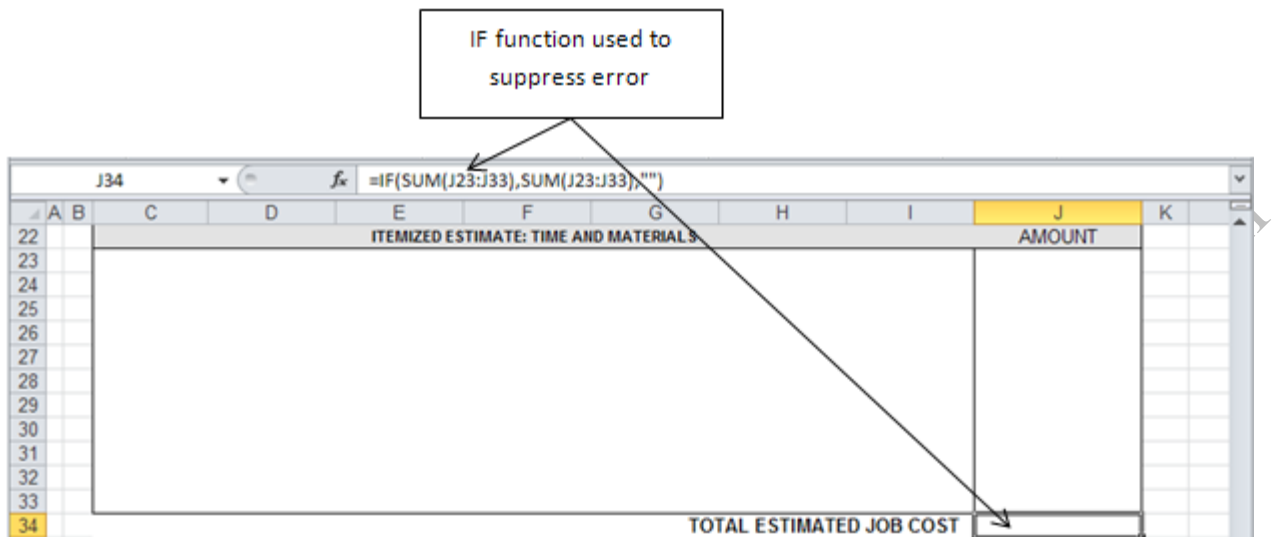

Figure 8.46. IF function used to sum column J.
14. Click cell J34 and apply the Accounting Number Format. Examine the IF statement in the Formula Bar as shown in Figure 8.46. This statement has been used to sum the contents of the column if there is a sum, otherwise cell J34 will be blank. This is another method for avoiding the #NA error that would otherwise display because cells J23:J33 are now blank.